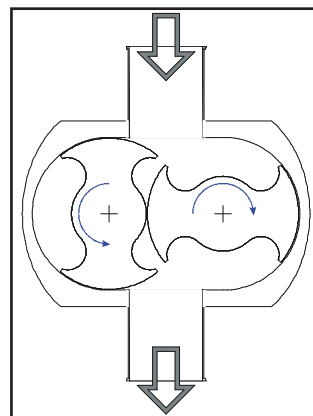

Figure 10. Direction of rotation - viewed from pump head. (Principles applies to all mounting orientations)
- Motor is wired for correct direction of rotation - see Figure 10.